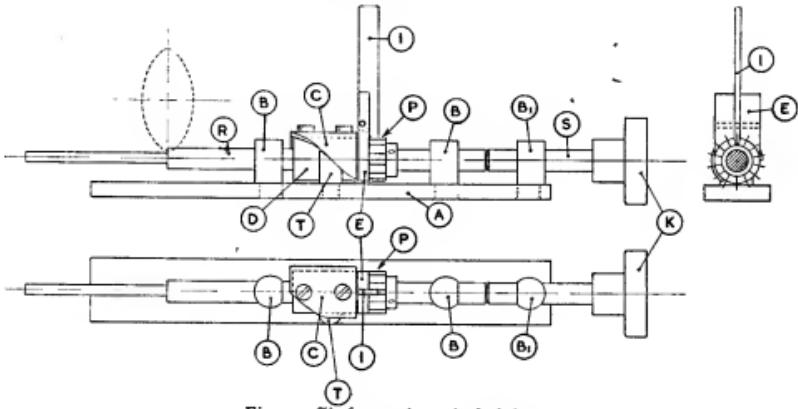

Fig. 2. Jig for cutting spiral pinions
This again requires a simple jig, the base of which consists of a length of $\frac{3}{4}$ -in. $\times \frac{1}{8}$ -in. B.D.M.S. (A), Fig. 2. Through this base two standards BB are riveted. These consist of short lengths of $\frac{1}{8}$ -in. diameter steel rod with one end reduced to $\frac{1}{4}$ in. diameter, and the spigot thus formed passed through a hole in the base and riveted over. These two standards have a $\frac{1}{4}$ -in. horizontal hole drilled through them at a height of $\frac{1}{2}$ in. from the base. To facilitate the drilling of these holes, one side of each standard was filed flat. A third standard, B1, is fitted in a similar way, but has a $\frac{1}{4}$ -in. tapped hole instead of a plain hole through it. Through this tapped hole a length of $1\frac{1}{2}$ in. Whit. screwed rod, S, with a head, K, is screwed. This screw is used to feed the pinion against the cutter. The steel rod, R, to be formed into the pinion, is fitted through the standards, BB, and butts against the screw S.